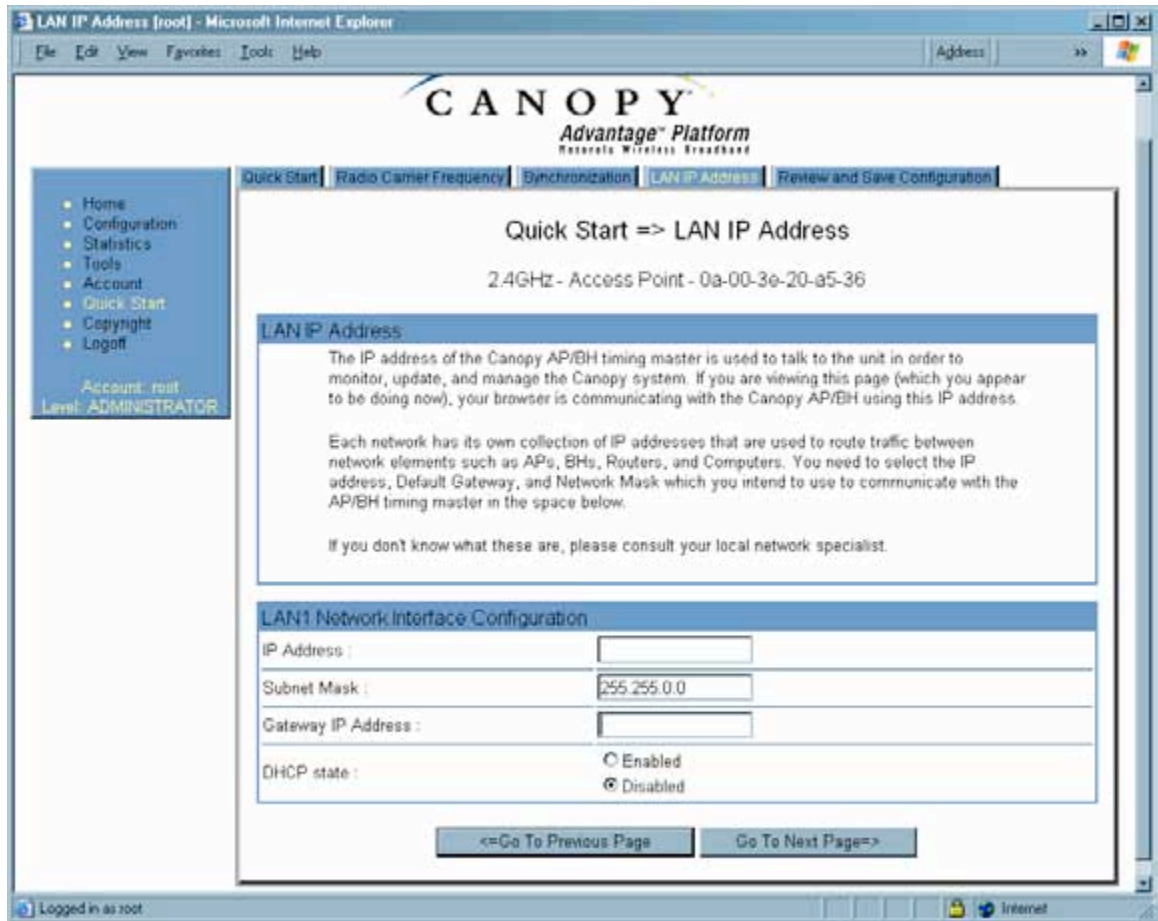

Figure 55: LAN IP Address tab of AP, example
**RESULT:** The AP responds by opening the LAN IP Address tab. An example of this tab is shown in Figure 55.